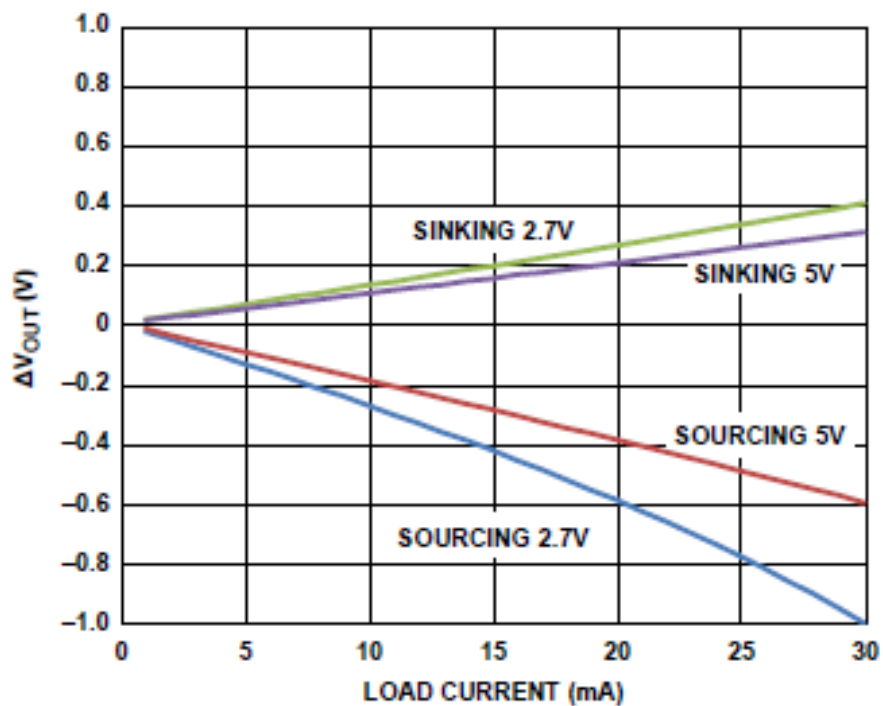

FIGURE 9. Headroom/Footroom vs Load Current.
- 7/ When drawing a load current at either rail, the output voltage headroom, with respect to that rail, is limited by the 25  $\Omega$  typical channel resistance of the output device. For example, when sinking 1 mA, the minimum output voltage = 25  $\Omega \times 1\text{ mA} = 25\text{ mV}$  (see Figure 9).